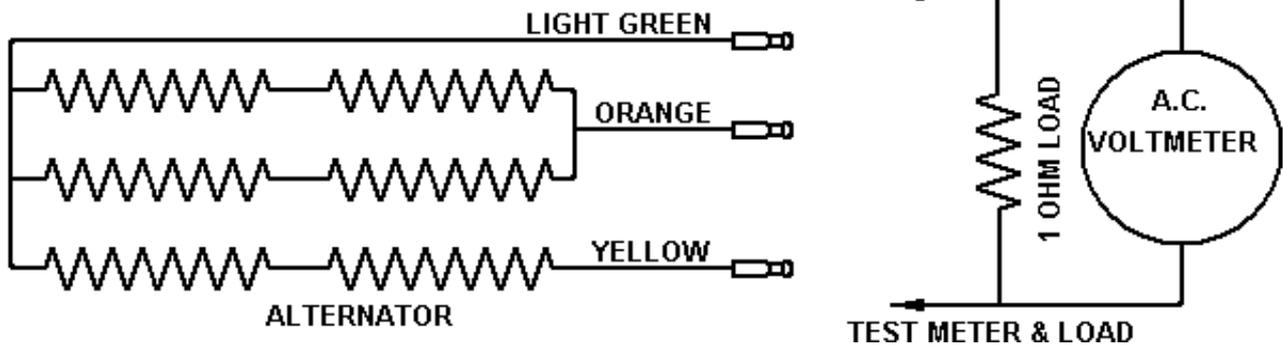

FIG. G2. Generator testing.
The lighting and ignition systems of the Wipac alternator equipped model Bantam consists of a simple six-pole alternator generating set which supplies current through a metal plate rectifier to a battery, which then feeds the ignition system, lights, horn etc. The alternator ring carries six coils which are connected in three sets of two in series, as illustrated in the schematic diagram Fig. G2.
By using one set of two coils in series, a certain output is obtained for daylight running and when the pilot or parking lights are switched on. When the headlight is brought into circuit, all six coils are connected as three pairs in series parallel as shown in Fig. G2, giving maximum output, most of which is absorbed by the headlamp bulb but still leaving sufficient current for maintaining the state of charge of the battery.
- (3) Check the alternator output by disconnecting the yellow, orange and light green leads from the five-way connection, into which the alternator harness is plugged. It will be seen from the appropriate wiring diagram, on page G14 and from Fig. G2, that the light green lead from the alternator is common to all coils, whilst the yellow connects two coils only and the orange the remaining four. Connect one side of the Wilkson test meter (A.C. volts with 1 ohm load) or the A.C. voltmeter with 1 ohm load paralleled across it, to the green lead and the other side of the meter to the yellow and orange leads in turn.